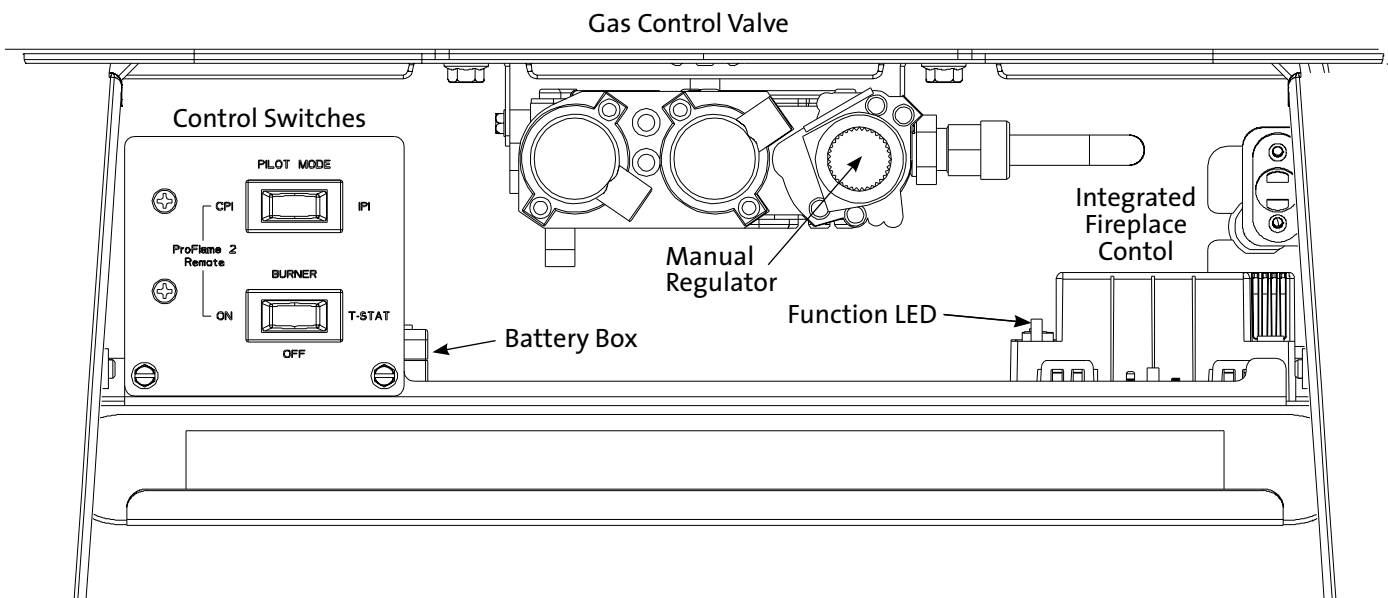

Figure 15.1. GF 305 DV IPI Controls Compartment.
1. Set the Burner switch to OFF. See fig. 15.1.